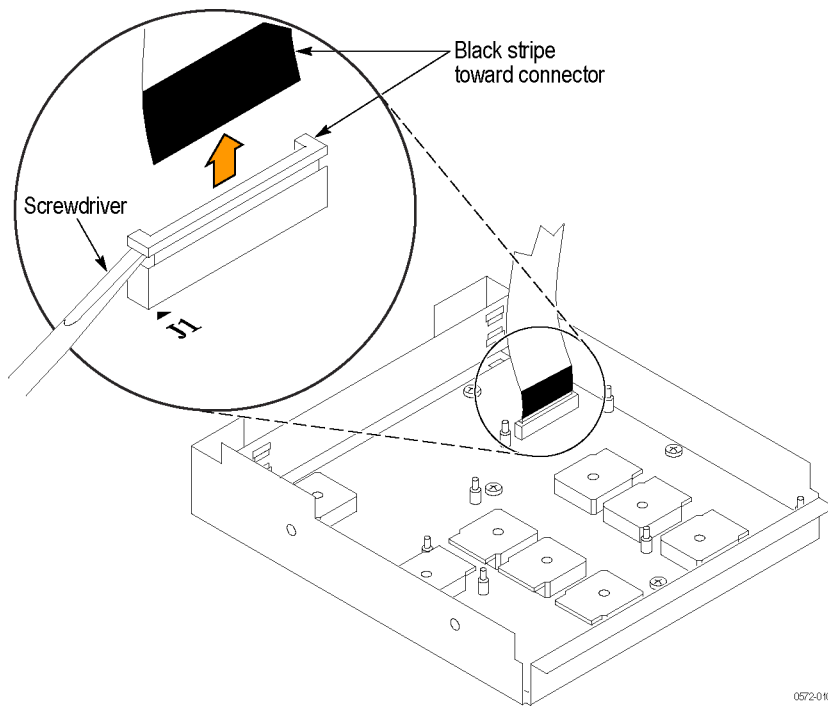

Figure 5: J1 flex cable connector removal
- f. Use the 1/8 inch flat-bladed screwdriver to carefully lift up the J1 cable connector lock. Pull up on the J1 flex cable to disconnect it from the display module assembly. (See Figure 5 on page 33.) Note the position of the pin 1 index mark on the connector and the black stripe on the cable for later reassembly.